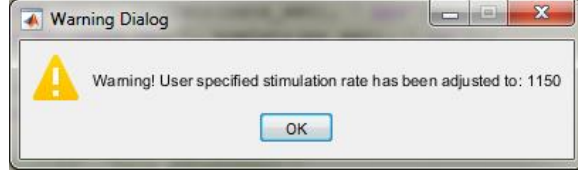

Figure 5. Warning dialog display when the pulse width specified has been adjusted to meet operating specifications.
3. **Protocol for Stimulation Mode:** To ensure CCI-MOBILE is operating in its only stimulation mode supported (MP1+2), the pulse width is checked again using Equation 2. If the pulse width specified (and/or adjusted previously) exceeds this value, the pulse width is adjusted to the maximum pulse width allowed per Equation 2 and the user is notified using a dialog box shown in Figure 5.